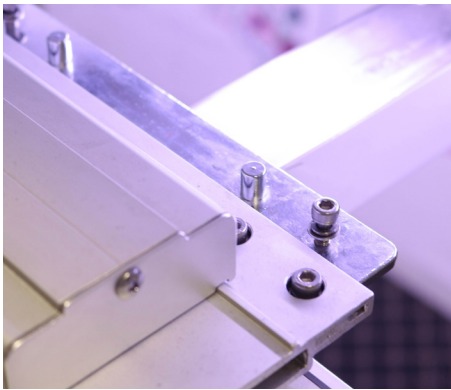

Figure 49
1. Loosen the two hex screws located on the metal bracket attached to the pantograph rail. **See Figure 49.**